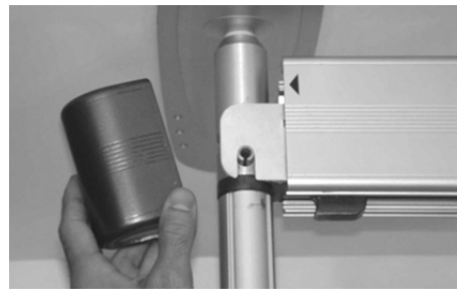

Figure 44
2. Remove the round blue cap (see Figure 9, item #7) from the ends of the rails, by pulling them away from the post (see Figure 44).